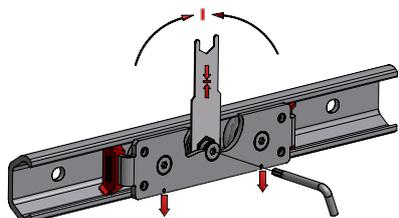

Fig. 2
- 2) By turning the open-ended spanner clockwise, the eccentric roller is pressed against the upper track until the carriage is play-free. The preload should be selected so that the carriage can be easily moved by hand. Depending on requirements, a higher preload can be set. The fastening screw can be tightened while the roller pin is being held in the correct position with the open-ended spanner (Fig. 2).